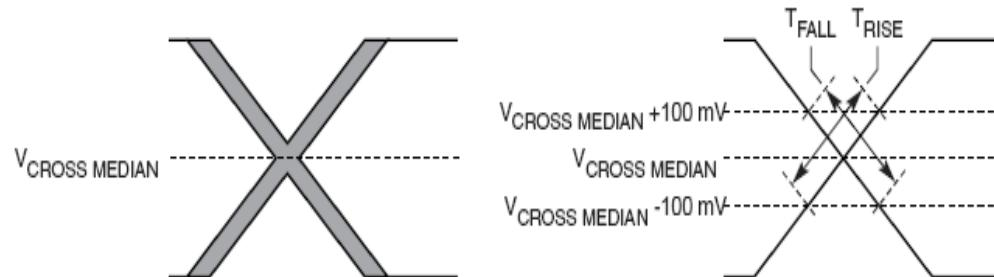

Figure 17. Single-Ended Measurement Points for Rise and Fall Time Matching
6.	Matching applies to rising edge for SR[1-2]_REF_CLK and falling edge rate for SR[1-2]_REF_CLK. It is measured using a 200 mV window centered on the median cross point where SR[1-2]_REF_CLK rising meets SR[1-2]_REF_CLK falling. The median cross point is used to calculate the voltage thresholds that the oscilloscope uses for the edge rate calculations. The rise edge rate of SR[1-2]_REF_CLK should be compared to the fall edge rate of SR[1-2]_REF_CLK; the maximum allowed difference should not exceed 20% of the slowest edge rate. See Figure 17 .